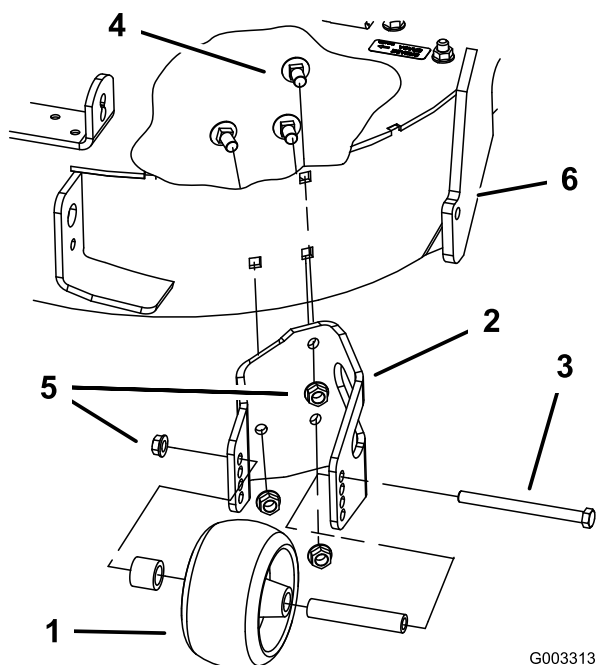

Figure 2
1. Remove the anti-scalp roller from the bracket by loosening and removing the flange nut (3/8 inch) and axle bolt (3/8 x 4-1/2 inch) as shown in Figure 2.
2. Remove the three carriage bolts (3/8 x 3/4 inch) and flange nuts (3/8 inch) securing the bracket to the mower (Figure 2). Save the fasteners for later use.